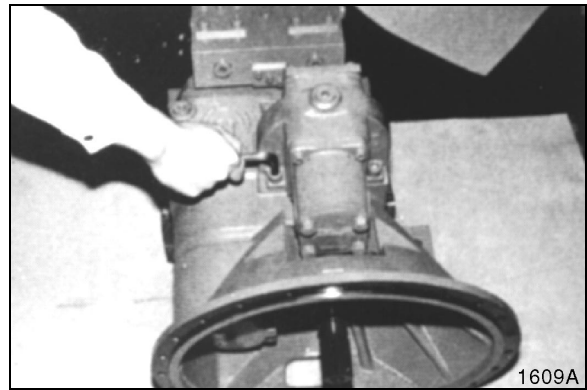

Figure 16
2. Remove auxiliary pump using 10 mm hex wrench. See Figure 16.